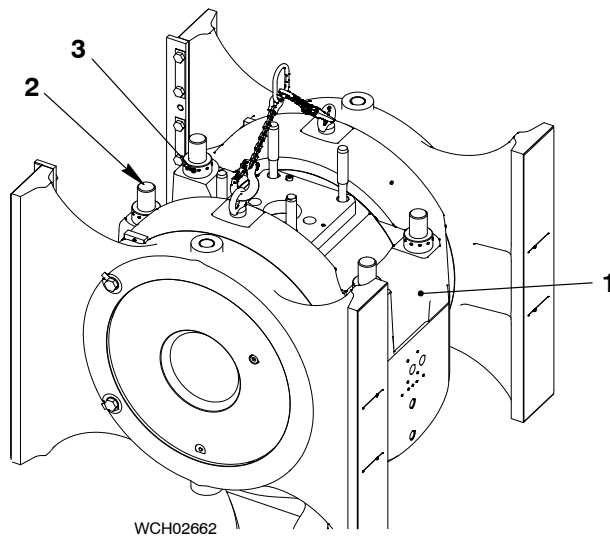

Fig. 6
- 10) Attach the round nuts (3, Fig. 6) to the elastic bolts (2).
- 11) Use the pre-tensioning jack (94315) to tighten the four round nuts (3) refer to 9403-4.